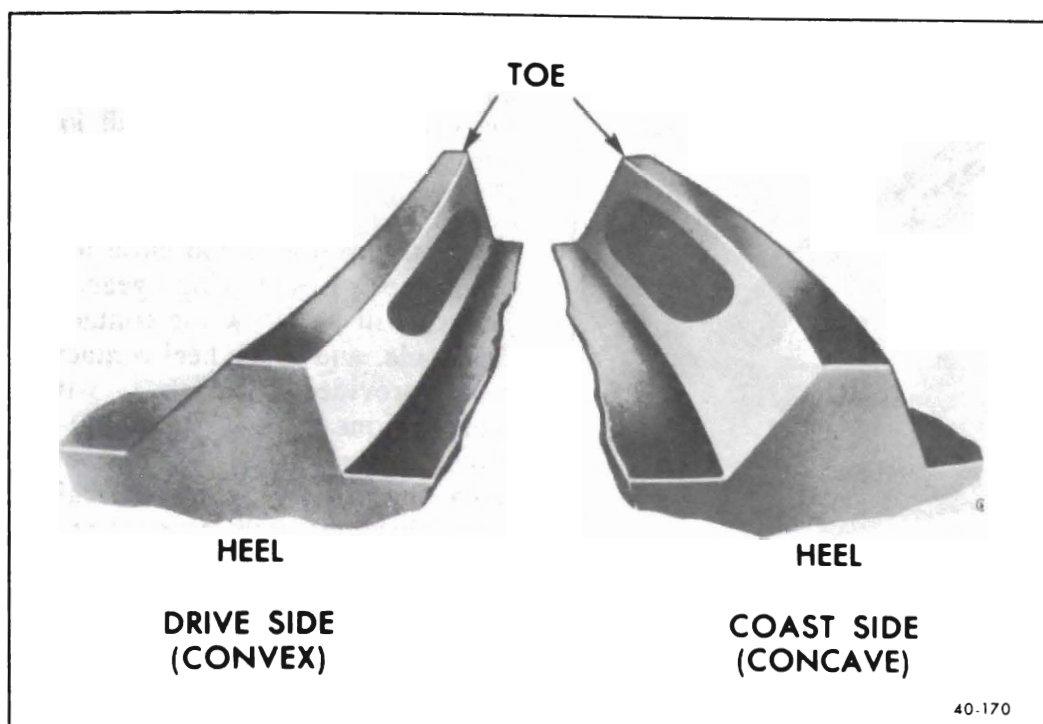

Figure 40-158 Gear Tooth Nomenclature
5. Observe pattern on ring gear teeth and compare with Figures 40-158 and 40-159.